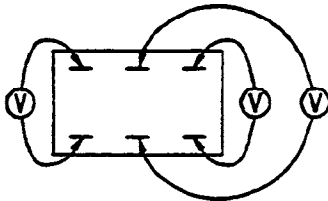

Figure 5-10. ON/OFF Switch
3. Set the ON/OFF Switch to the OFF position. Refer to Figure 5-10 and check for 120 VAC across the left terminals of the ON/OFF Switch.
4. Refer to Figure 5-10 and check for 120 VAC across the center terminals of the ON/OFF Switch.
5. Refer to Figure 5-10 and check for 120 VAC across the right terminals of the ON/OFF Switch.
6. Set the ON/OFF Switch to the OFF position. Refer to Figure 5-10, and check for 120 VAC across the left terminals of the ON/OFF Switch.